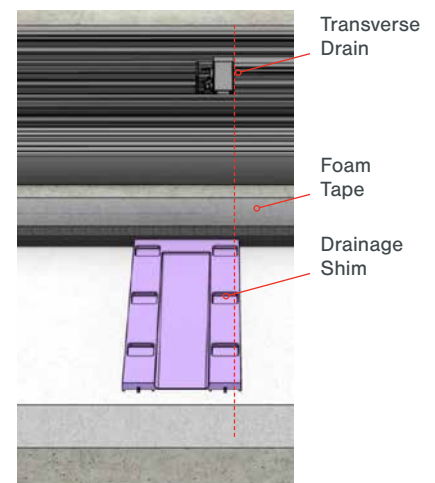

Fig 5
- Place additional shims at each transverse drain location as shown in Fig 5.
⚠ Ensure that the drainage shim is oriented and aligns with the transverse drain as shown in Fig 5. The transverse drain should be draining onto the sloped portion of the drainage shims.